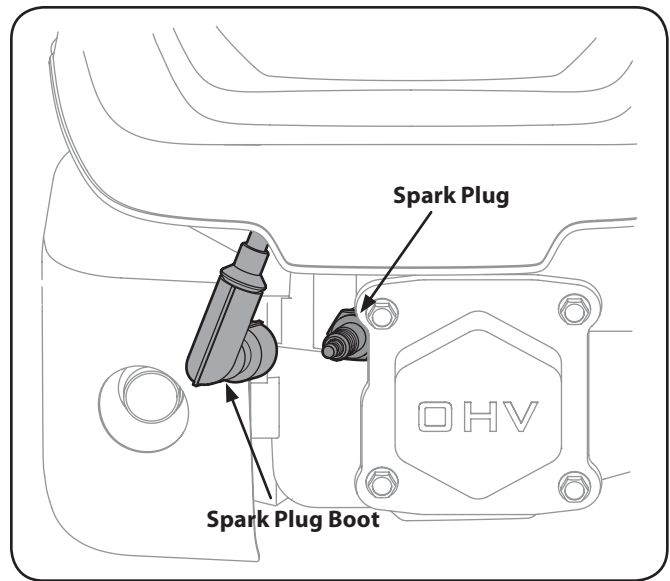

Figure 6-4
1. Remove the spark plug boot and use a spark plug wrench to remove the plug. See Fig. 6-4.